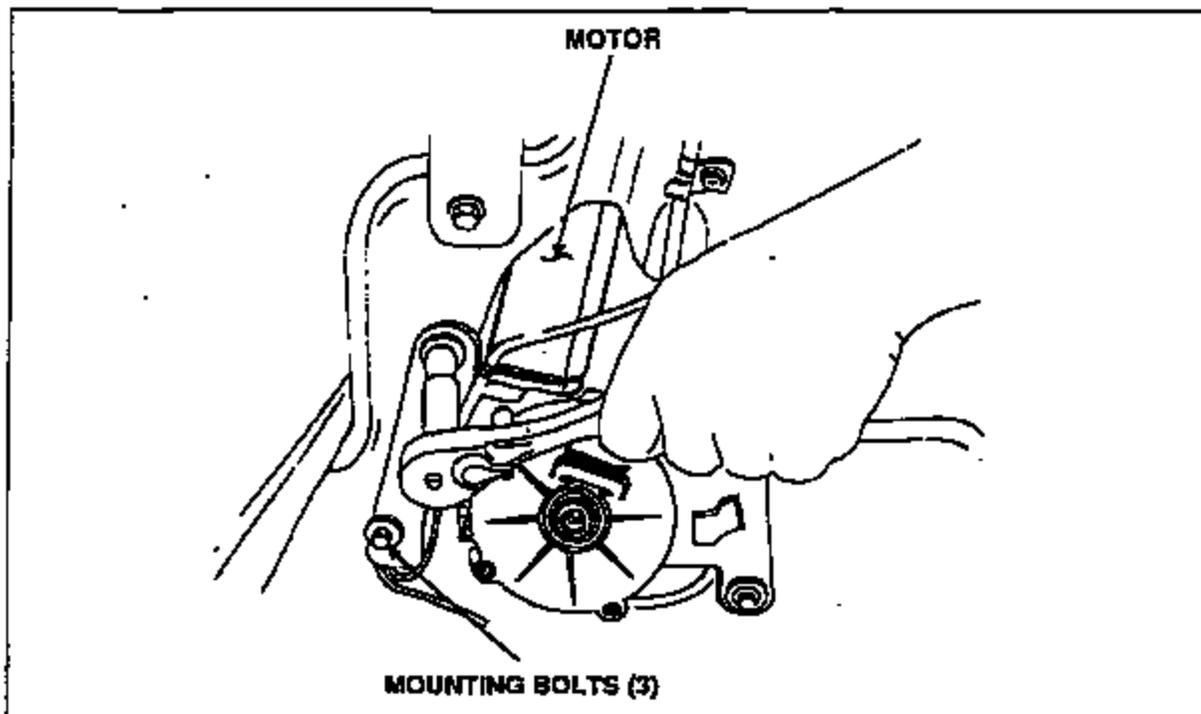

FIGURE 6
11. Remove the three (3) motor mounting bolts. See Figure 6.